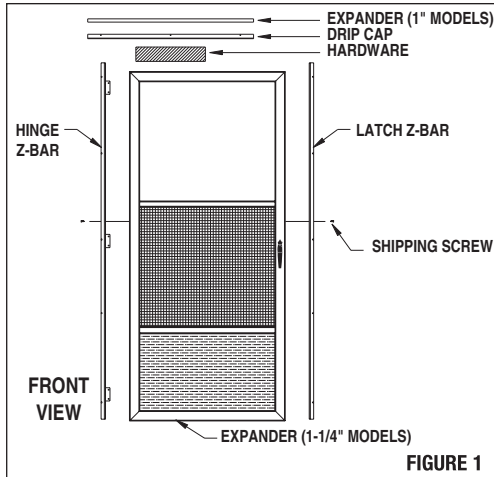

FIGURE 1
To do this, remove **one (1)** shipping screw on each side of door. (Reinstall screws once z-bars are unattached.) **See Figure 1**